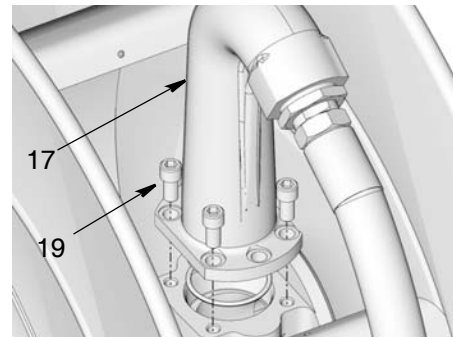

FIG. 79
4. Reinstall outlet (17) to spool. Replace and tighten bolts (19) securely. Torque bolts to 24 to 30 ft. pounds (32.54 to 40.67 N.m) (FIG. 79).